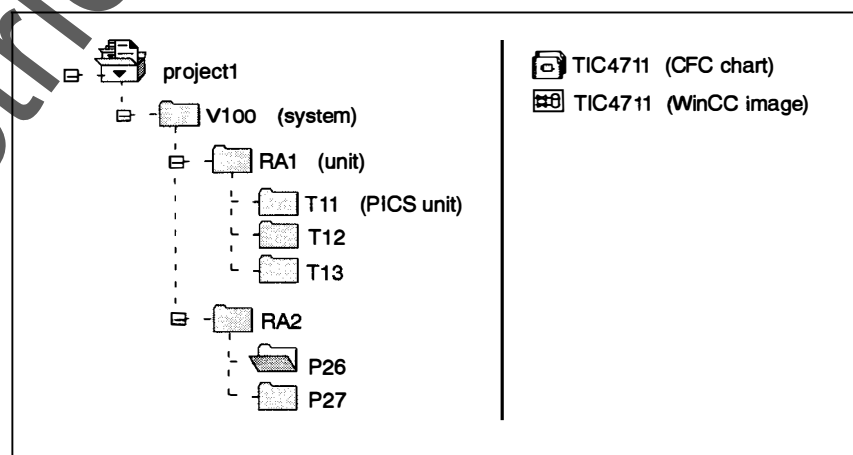

Figure 1-2 Plant hierarchy
- It enables objects to be arranged in a plant hierarchy, thus structuring the system according to functions or equipment (see Figure 1-2).
Example (from Figure 1-2) for an HID: V100\RA2\P26